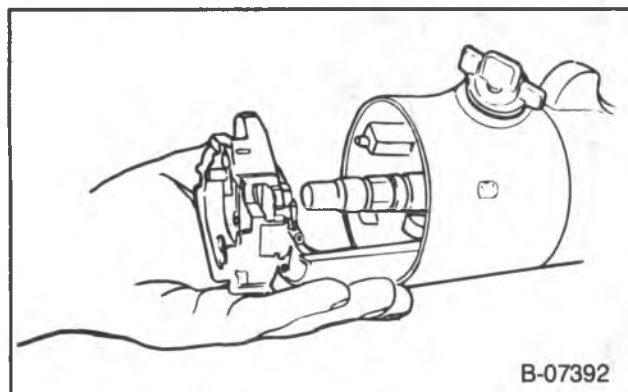

Figure 13 — Turn Signal Switch Assembly Removal
8. Turn signal switch. Pull the switch straight up, guiding the wiring harness and cover through the column housing (figure 13).